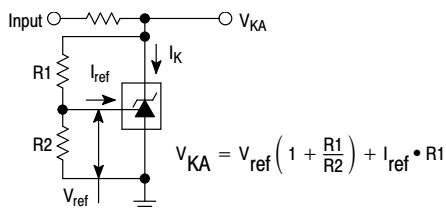

Figure 2. Test Circuit for  $V_{KA} > V_{ref}$
- The dynamic impedance ZKA is defined as  $|Z_{KA}| = \frac{\Delta V_{KA}}{\Delta I_K}$  When the device is programmed with two external resistors, R1 and R2, (refer to Figure 2) the total dynamic impedance of the circuit is defined as:  $|Z_{KA}'| \approx |Z_{KA}| \left( 1 + \frac{R1}{R2} \right)$